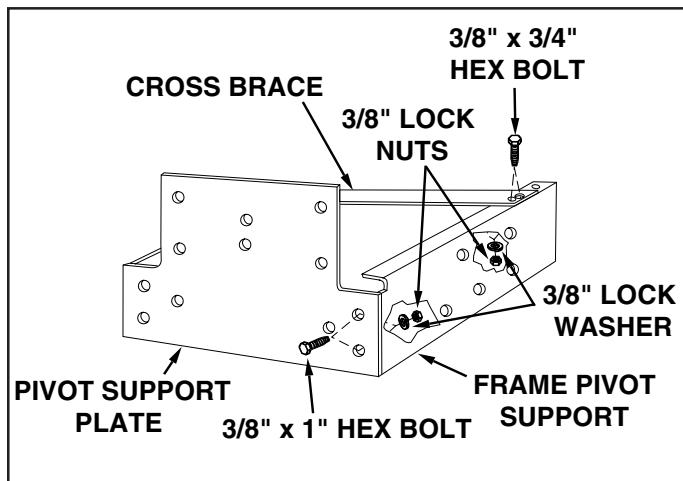

FIGURE 2
- Assemble frame pivot supports (R.H. and L.H.) to pivot support plate using four 3/8" x 1" hex bolts, lock washers and locknuts. See figure 2.
- Using the inside two holes on the tops of the frame pivot supports, attach the cross brace using four 3/8" x 3/4" hex bolts, lock washers and lock nuts. See figure 2.